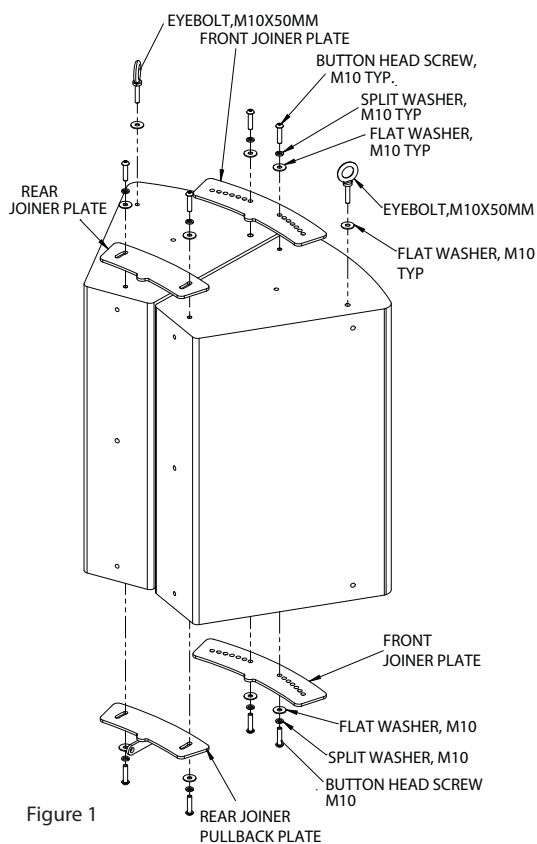

Figure 1
Install the rear joiner pull back plate on the rear inserts of the speaker using the slots of the plate (Figure 1). Install the other front joiner plate on the two front rigging inserts using the corresponding holes for the appropriate splay angles. Use the provided M10 screws, lock washer and flat washers. Do not tighten screws; leave it snug until all plates are in position.
Step 5: Install another front joiner plate on the two front rigging inserts using the same holes as on the bottom plate. Use the provided M10 screws, lock washer and washer to secure the plate (Figure 1).